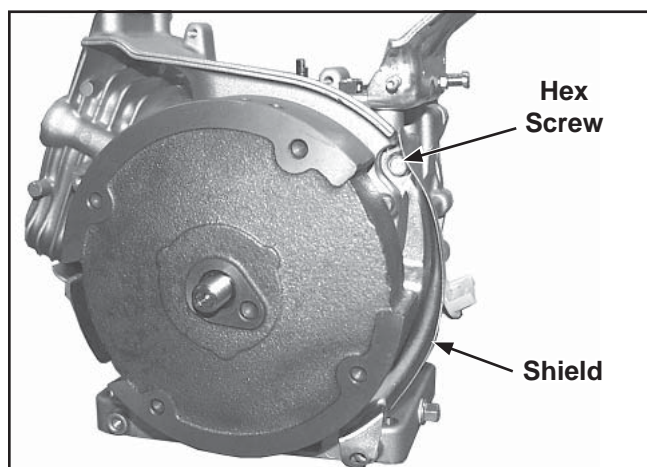

Figure 11-37. Install Flywheel Shield.
3. Install flywheel shield and secure with one hex flange screw (CH270 only). See Figure 11-37.